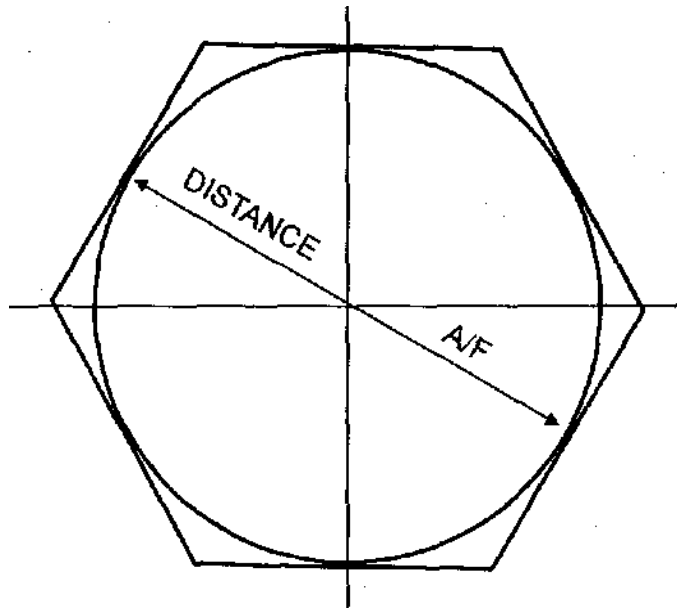

Fig. 7.1
- Produce the hexagon (Fig 7.1)